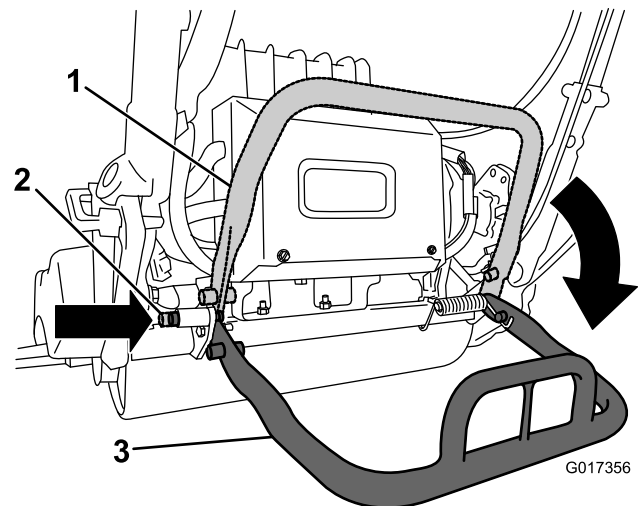

Figure 26
- To use the kickstand when removing the reel, lower it and push in the locking pin to lock the kickstand in the service position (Figure 26).